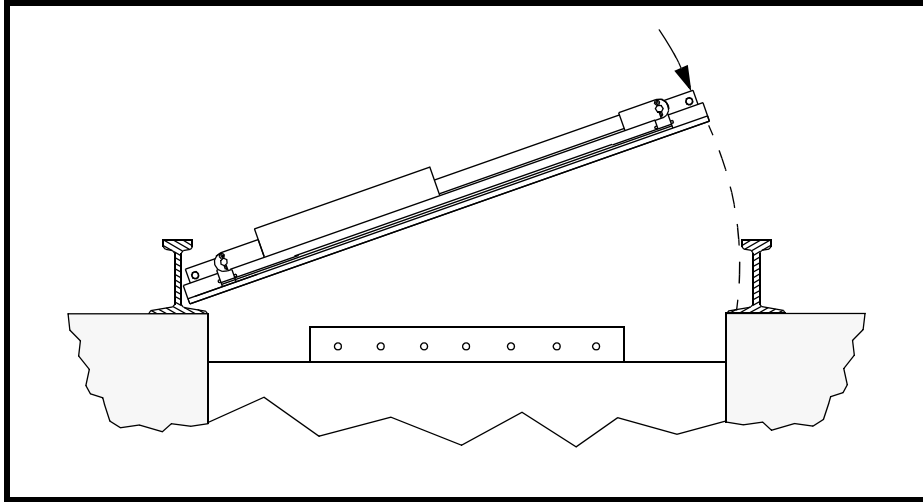

Figure 5. Positioning Railcar Connector on Rails
1. See Figure 5. With the hydraulic street elbow fitting toward operator's side of track, slip one end of Railcar Connector against rail web.